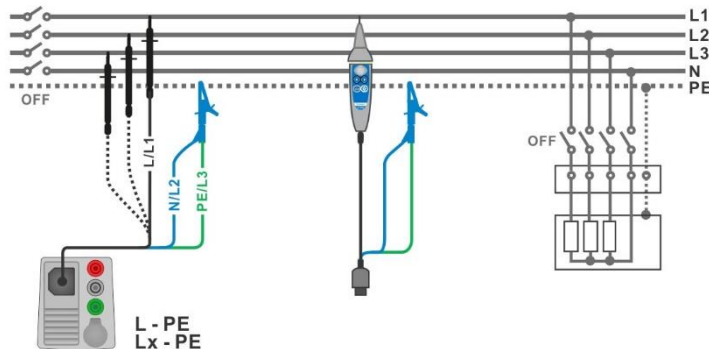
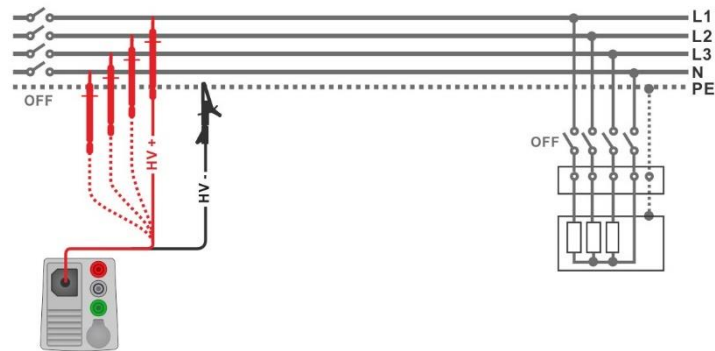

Figure 7.14: Connection of 3-wire test lead and Tip commander ( $U_N \leq 1 \text{ kV}$ )
Figure 7.15: Connection of 2.5 kV test lead ( $U_N = 2.5 \text{ kV}$ )
- ▶ Connect test leads to object under test (see **Figure 7.14** and **Figure 7.15**).